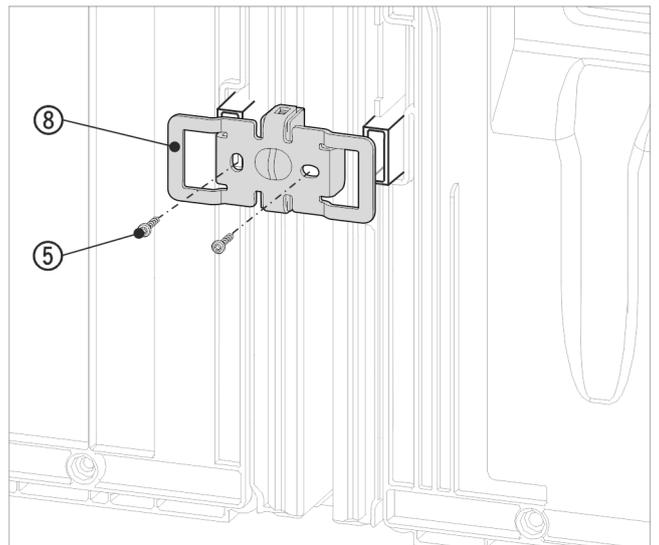

Fig. 19 Example illustration
- ▶ Slide the bracket Fig. 19 (8) on once more with the slots over the retainer for the wall spacers.
- ▶ Screw in tightly with the 2 screws Fig. 19 (5).